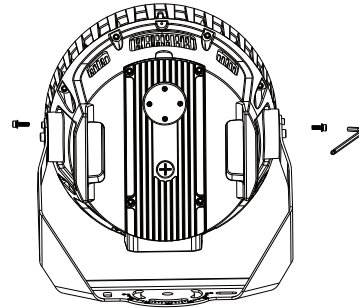

Figure 2
- 2: Fix it with M6 screws after adjusting to the required the angle (Figure 2).